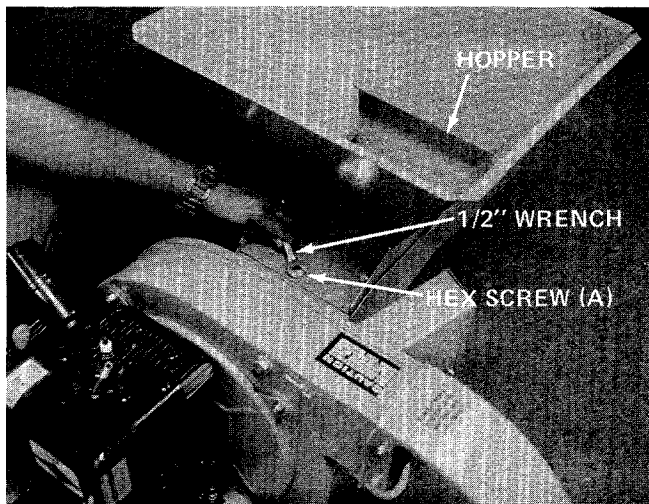

FIGURE 4
← 4. Place the hopper on the shredder. Start all three self-tapping screws (A) by hand, then tighten with a 1/2" wrench. See figure 4.